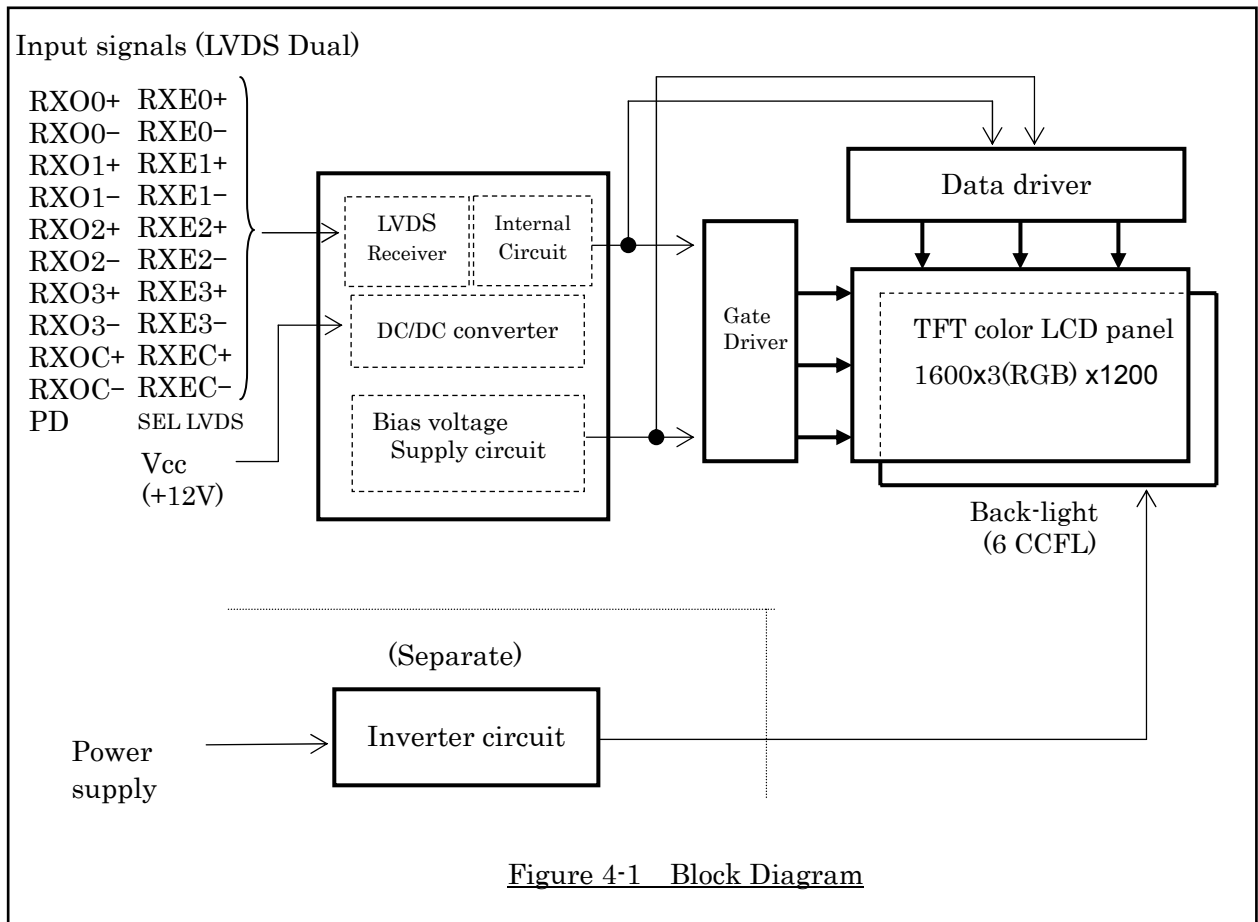

Figure 4-1 Block Diagram
4. CONFIGURATION This LCD module consists of a color TFT-LCD panel that is mounted with TFT driver ICs, a cold-cathode fluorescent tube back-light. The inverter for the backlight is not included. Figure 4-1 shows a block diagram of this LCD module.